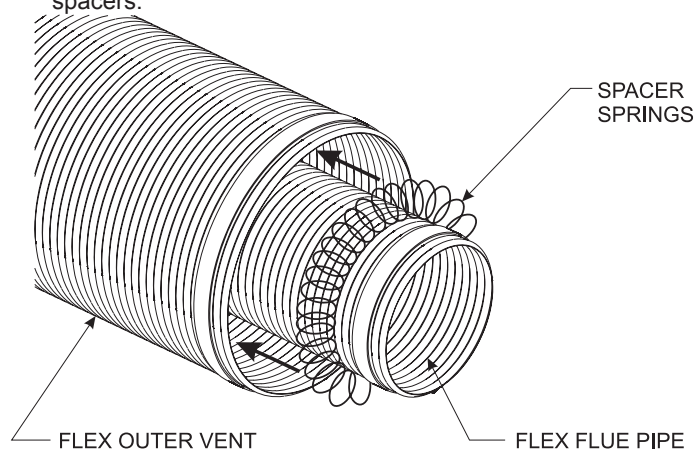

Figure 55
2. Check to see that the vent spacer springs are located around the flue vent at 8in intervals along its length. **See Figures 55 & 56.** If not, stretch the spacer springs to about 15in long and wrap them around the flue, then interlock the ends of each spring. Maintain equal distance between spring spacers.